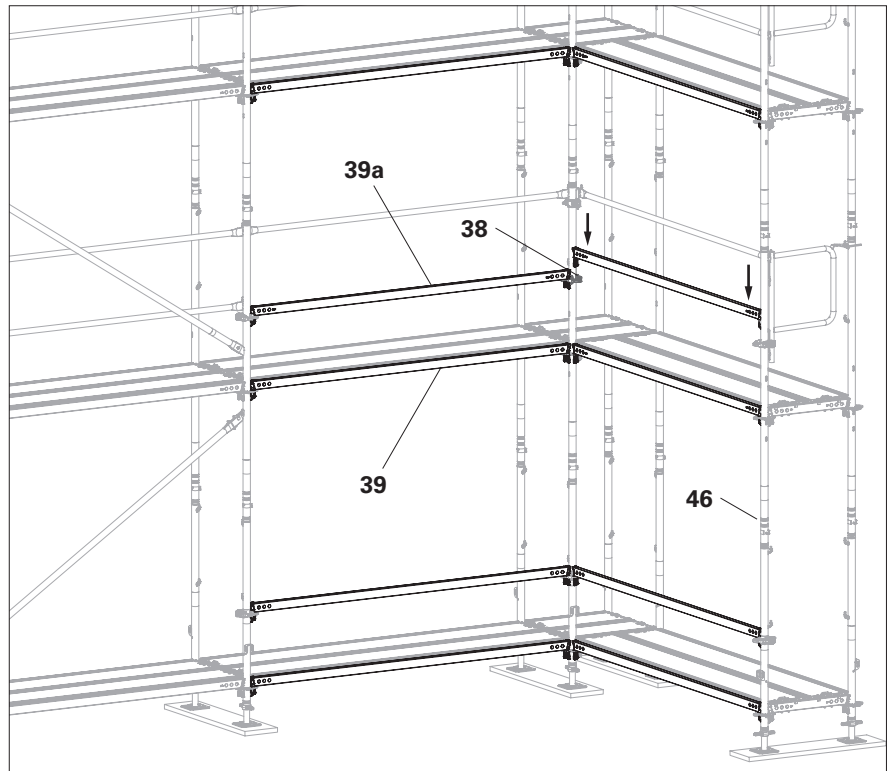

Fig. C2.01
If the corner bays are clad with PERI UP Cladding on the front side, then build up the outer leg of the basic scaffold from Standards UVR-2 (46). (Fig. C2.01)
1. Mount one Clamping Rosette UEV 90° (38) above each deck level on each of the 3 outer legs, height See chapter "Scaffolding connections" on page 30.
3. Mount Horizontal Ledgers UH-2 (39) on the outside of the rosettes at the corner bays in the basic frame at deck level. Secure the wedges. (Fig. C2.01)